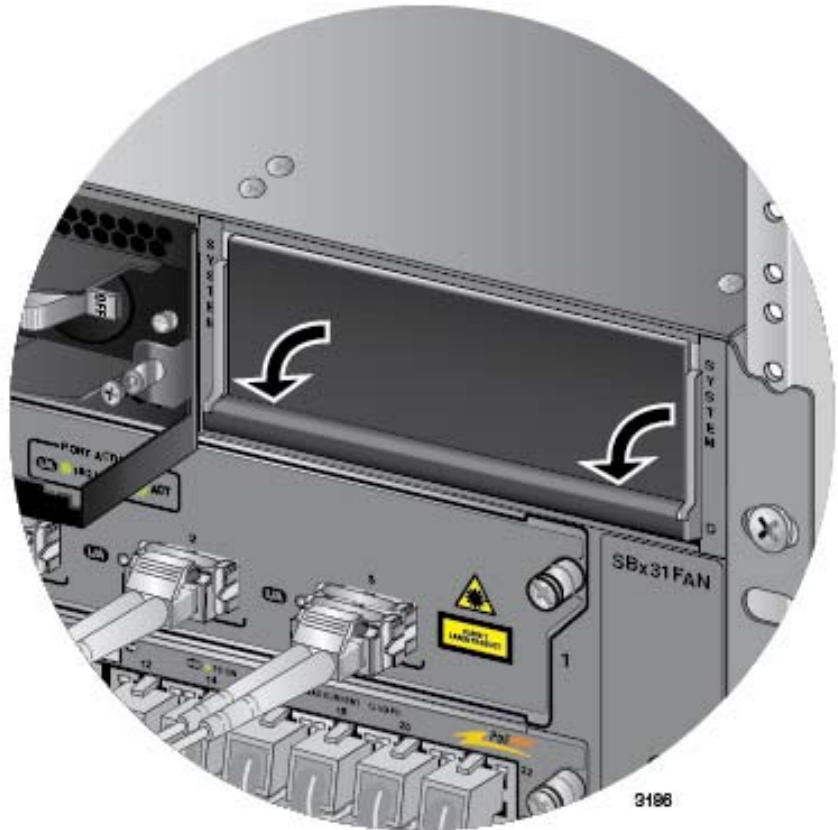

Figure 182. Lowering the Locking Handle on the Power Supply Slot Cover
14. Lower the locking handle to secure the blank power supply slot cover to the chassis slot. Refer to Figure 182 on page 305.